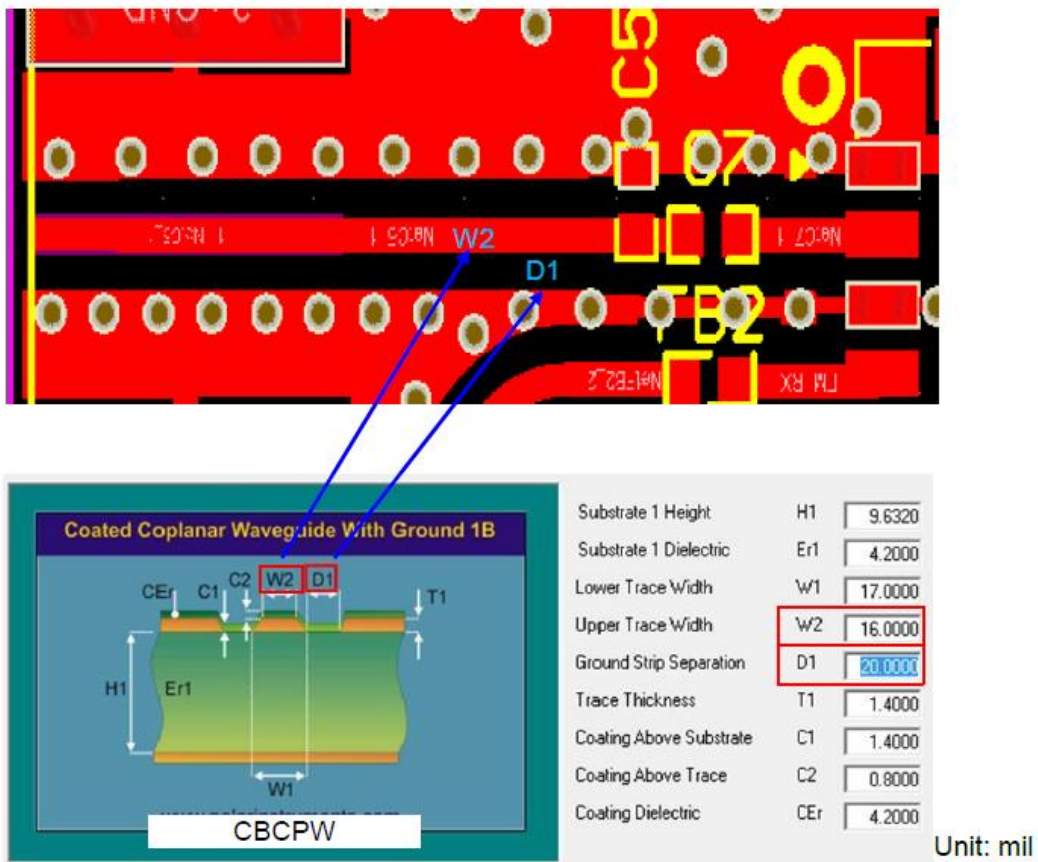

Figure 2
- ★ The recommended line width of RF transmission line is 8mil or above by well-designed microstrip line or CBCPW based on specific PCB stack-up and well-selected reference ground plane as Figure 2.